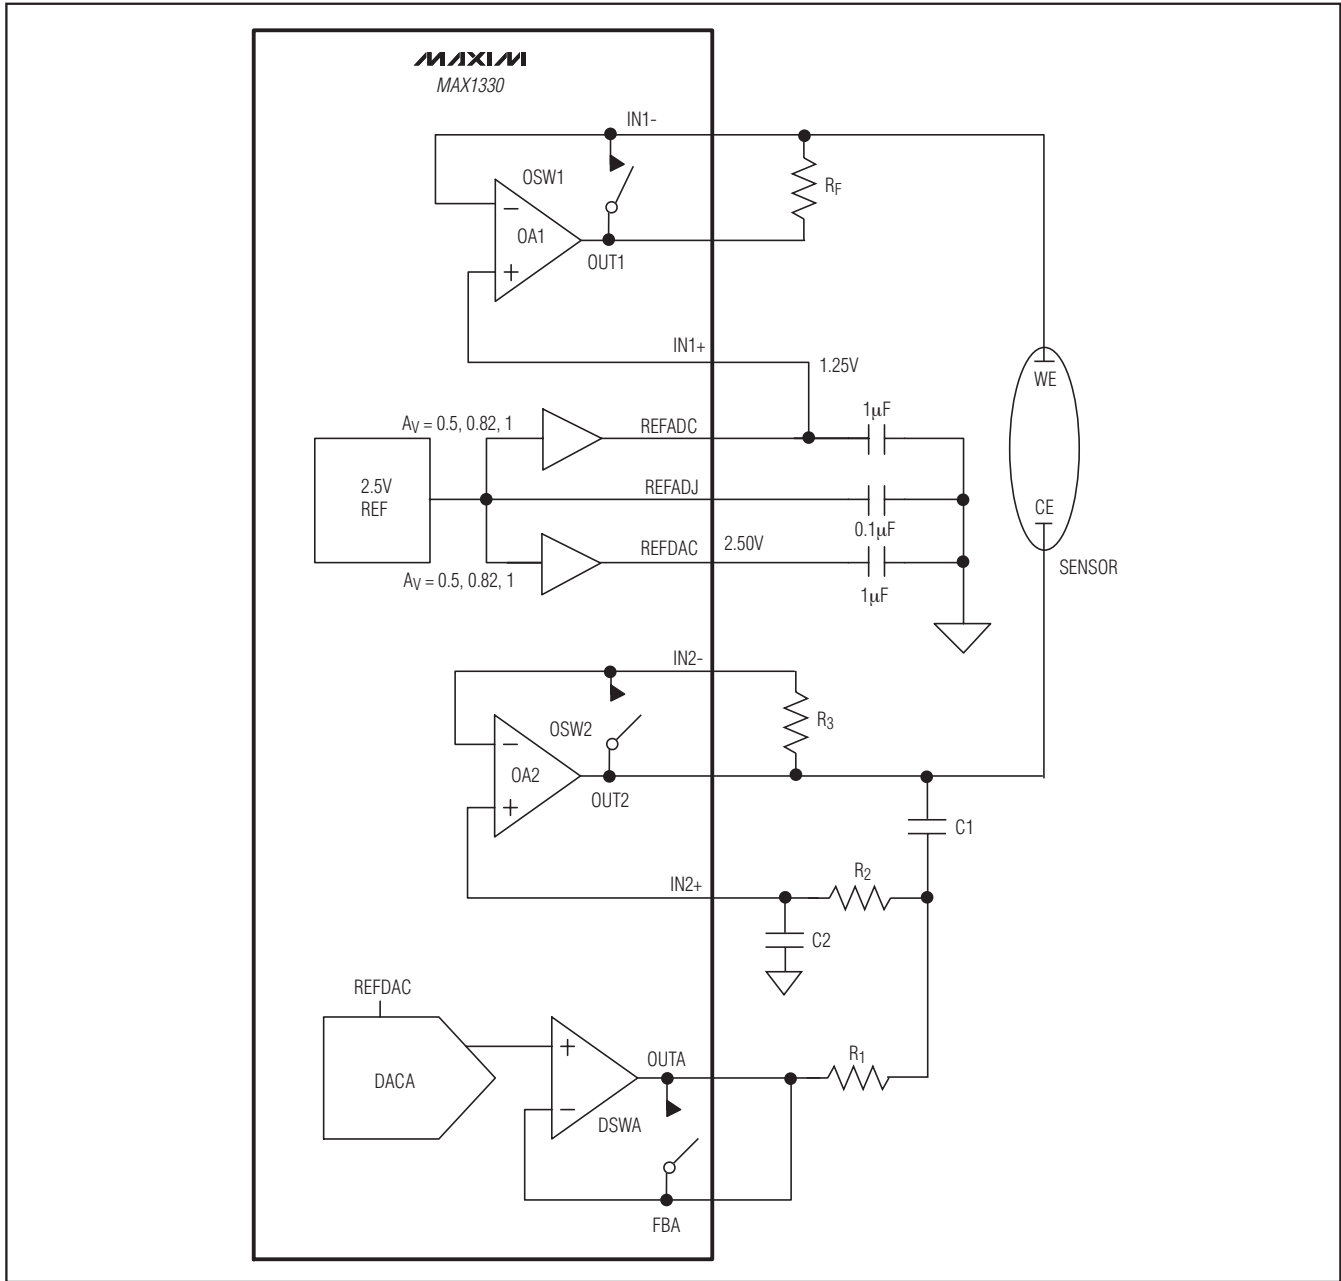

Figure 30. Two-Electrode Potentiostat with AC and DC Excitation
The circuit in Figure 30 shows the MAX1330 in a two-electrode potentiostat application with both AC and DC excitation to the sensor. The DSWA can be open or closed and OSW1 and OSW2 should be normally open although OSW1 can be closed during high sensor current to keep op amp 1 in compliance. REFADC is analog ground and the working electrode (WE) is connected to analog ground through op amp 1. The sensor current to be measured is converted to a voltage through R_F and measured by the internal ADC. For DC operation, the bias voltage between WE and the counter electrode (CE) is set by DACA. For AC operation, DACA is configured to generate a waveform by programming the FIFOA Control and FIFOA Data registers for the desired operation. Op amp 2 is configured as a 2nd-order Sallen Key lowpass filter to smooth the steps in the AC waveform going to the sensor. The DACA can be sequenced to create an AC waveform through the SPI interface or by configuring one of the DPIOs and driving it with a clock. The internal ADC includes a 16-word FIFO to facilitate data gathering during this mode of operation.